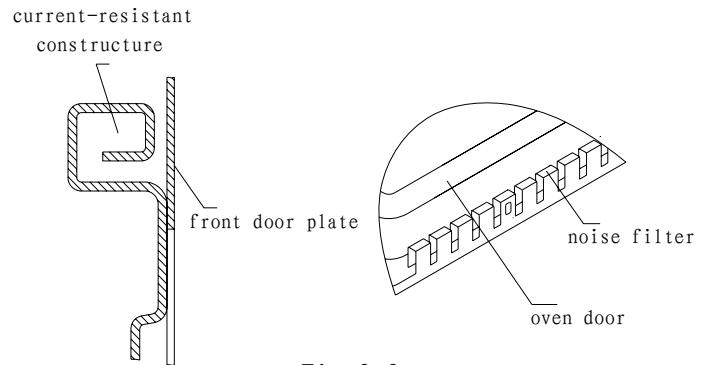

Fig. 2-9
- 2) The widely used seal measurement at present is to assemble a current – resistant construct between the door and the doorframe. FIG.2-9 is the typical construction fig of the door. It was designed according to the theory of “THETRANSFERING LINE ONE-FOURTHWAVE LENGTH IMPEDANCE CHANGER”. Although there is no connecting point from a mechanical point. It is sealed at the seam from the point of electricity, so it is called “CURRENT-RESISTANT”. Recently, with the installation of noise filter in the current resistant trough, the effect to restrain the microwave leakage (include high subharmonic) have been much improved.